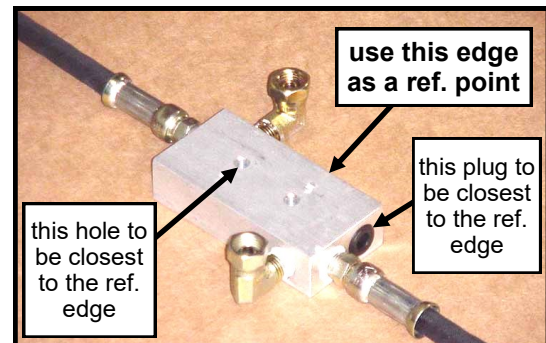

Fig. 4.1—Crossover Relief Valve Assembly
- 4.1** **NOTE: orientation is critical. Study figures 4.1 and 4.2.** Apply thread sealer to the male threaded ends of two NPT 1/4" male x 1/4" female 90° swivel elbows. Thread the elbows in where shown and tighten fully so that the swivel ends point straight up as shown. Apply thread sealer to the two NPT 1/4" male x 17" long high pressure hoses. Thread the two hoses into the end ports as shown and tighten fully.